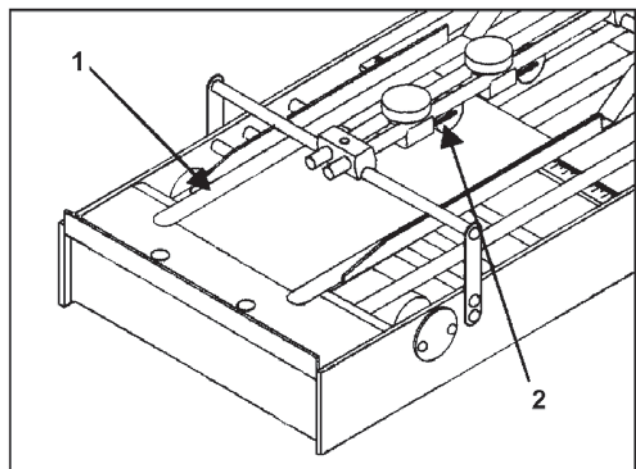

Figure 10
19. Adjust retainer straps [#1, Fig. 10] over Stop and Push Guide Tapes.